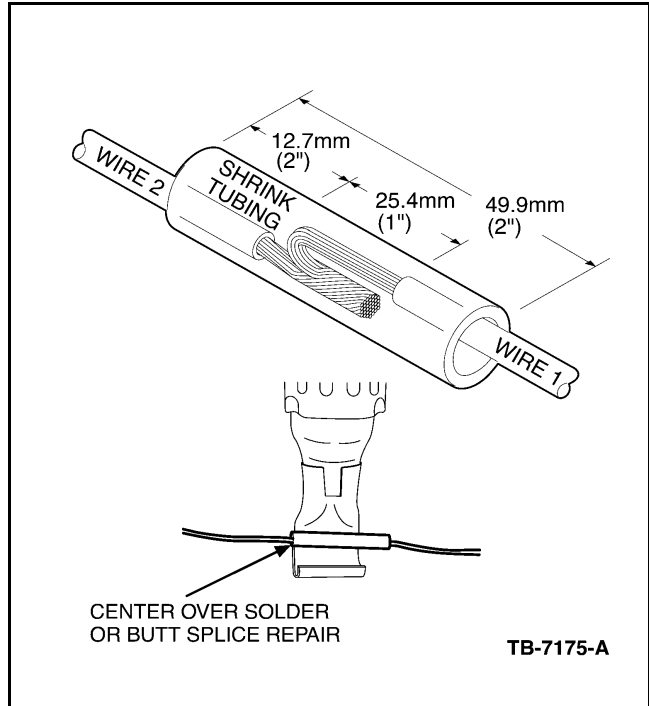

Figure 5 - Article 03-11-6
4. Evenly position heat shrink tubing over wire repair (Figure 5).
5. Use a shielded heat gun to heat the entire length of the heat shrink tubing until the hot melt appears from both ends of the tubing. Durability of a heat shrink tubing splice is dependent on the hot melt that will appear from both ends of the tube. The hot melt forms an adhesive seal between the wire insulation and the heat shrink tubing, which prevents air and moisture from entering the solder point (Figure 5).
10. Evenly position heat shrink tubing over wire repair (Figure 5).
11. Use a shielded heat gun to heat the entire length of the heat shrink tubing until the hot melt appears from both ends of the tubing. Durability of a heat shrink tubing splice is dependent on the hot melt that will appear from both ends of the tube. The hot melt forms an adhesive seal between the wire insulation and the heat shrink tubing, which prevents air and moisture from entering the solder point (Refer to Figure 5).